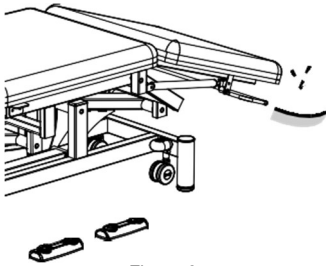

Figure 6
- As shown in Figure 6, pull the control lever backward (in the direction shown by the arrow) to adjust the angle of the head section.